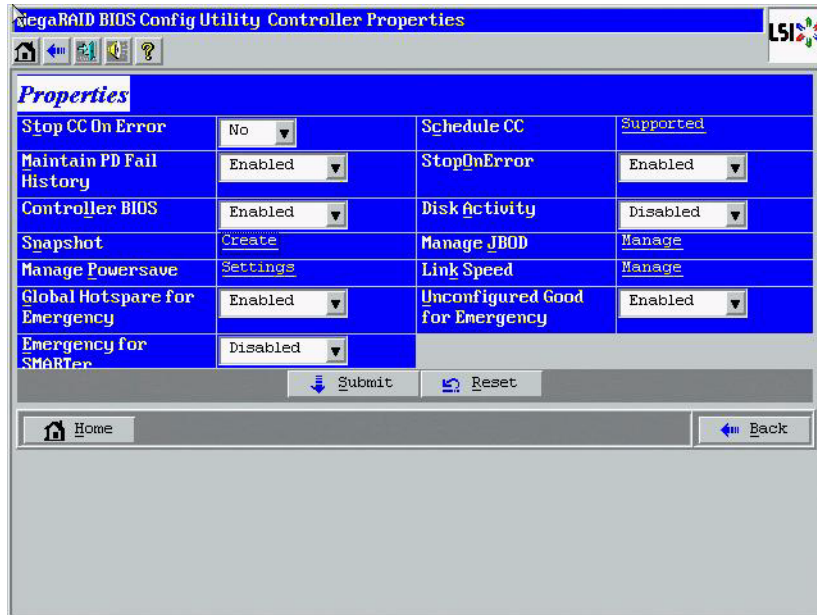

Figure 129: Fourth Controller Properties Dialog
- Click **Next** to on the first three Controller Properties dialogs to access the fourth Controller Properties dialog, as shown in Figure 129.